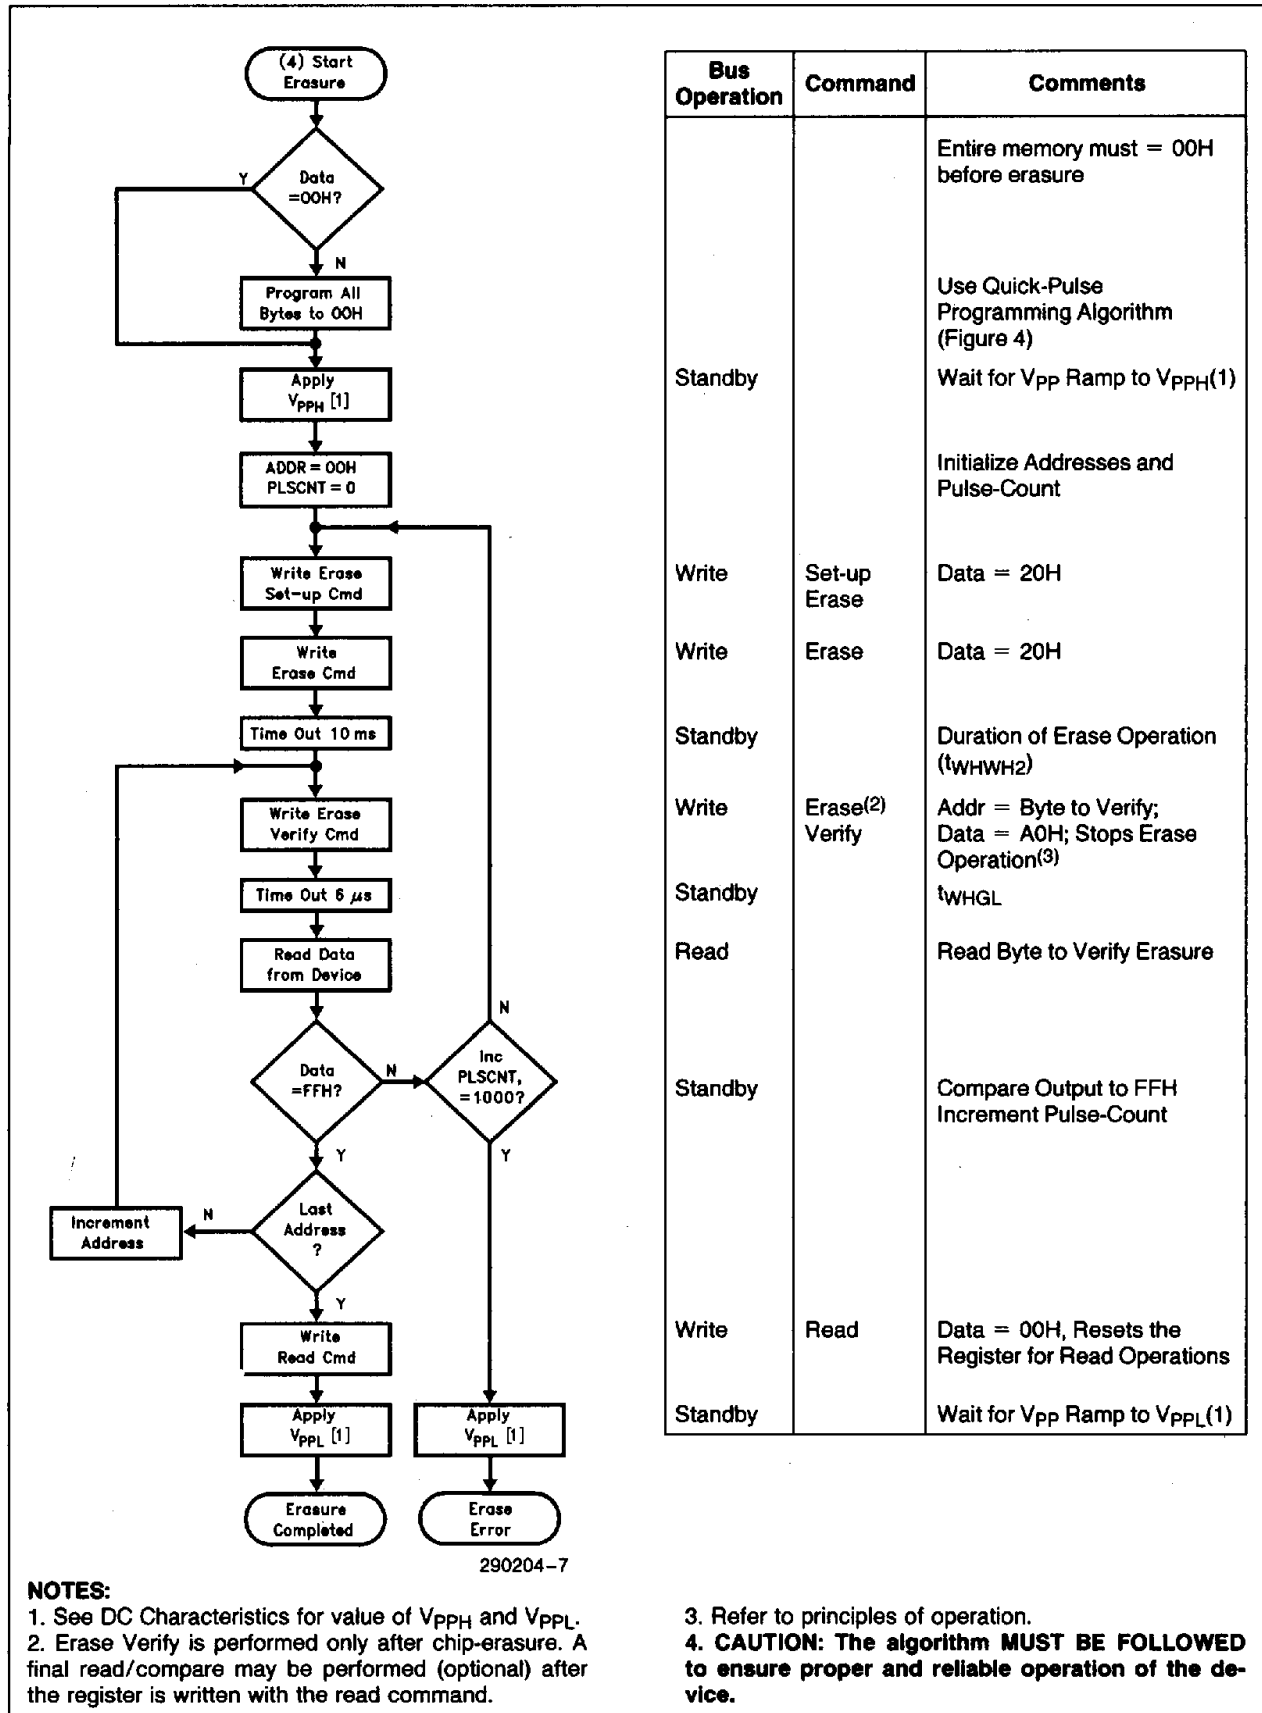

Figure 5. 28F512 Quick-Erase Algorithm
- Figure 5 illustrates the Quick-Erase algorithm.
In the case where the data read is not FFH, another erase operation is performed. (Refer to Set-up Erase/Erase). Verification then resumes from the address of the last-verified byte. Once all bytes in the array have been verified, the erase step is complete. The device can be programmed. At this point, the verify operation is terminated by writing a valid command (e.g. Program Set-up) to the command register. Figure 5, the Quick-Erase algorithm, illustrates how commands and bus operations are combined to perform electrical erasure of the 28F512. Refer to AC Erase Characteristics and Waveforms for specific timing parameters.
Erase execution then continues with an initial erase operation. Erase verification (data = FFH) begins at address 0000H and continues through the array to the last address, or until data other than FFH is encountered. With each erase operation, an increasing number of bytes verify to the erased state. Erase efficiency may be improved by storing the address of the last byte verified in a register. Following the next erase operation, verification starts at that stored address location. Erasure typically occurs in one second. Figure 5 illustrates the Quick-Erase algorithm.